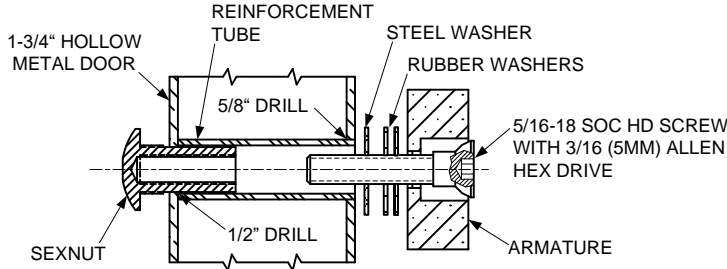

FIG. 3A HOLLOW METAL DOOR
4. Drill holes in door and mount armature according to figure 3A, 3B, or 3C depending on door type.
Magnet coil short.	Coil shorts or incorrect wiring will blow fuses. Measure the coil for correct resistance. See Fig. 3A and the Resistance specifications.